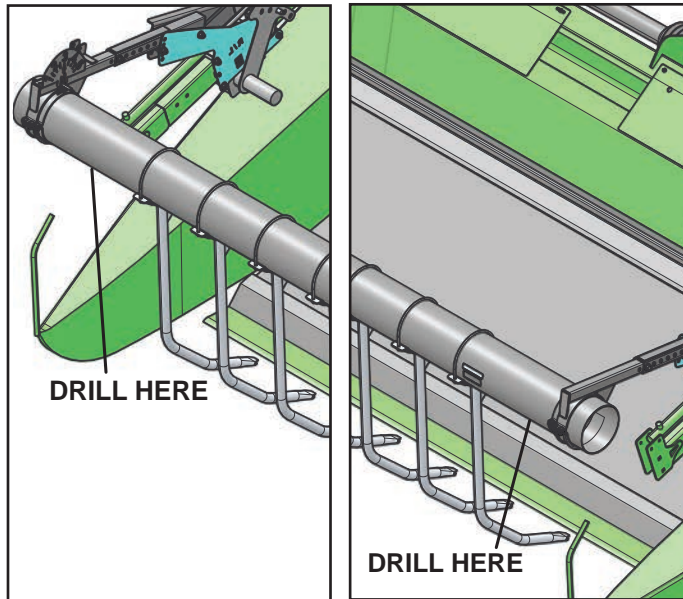

Figure 23: Drilling Drop Tube Holes
5. To mount the end drop tubes, two 1-9/16" holes must be drilled on each end of the manifold. Drill the holes as far to the outside of the header as possible, while still providing room for drop tube in between the tines of reel, Figure 23.